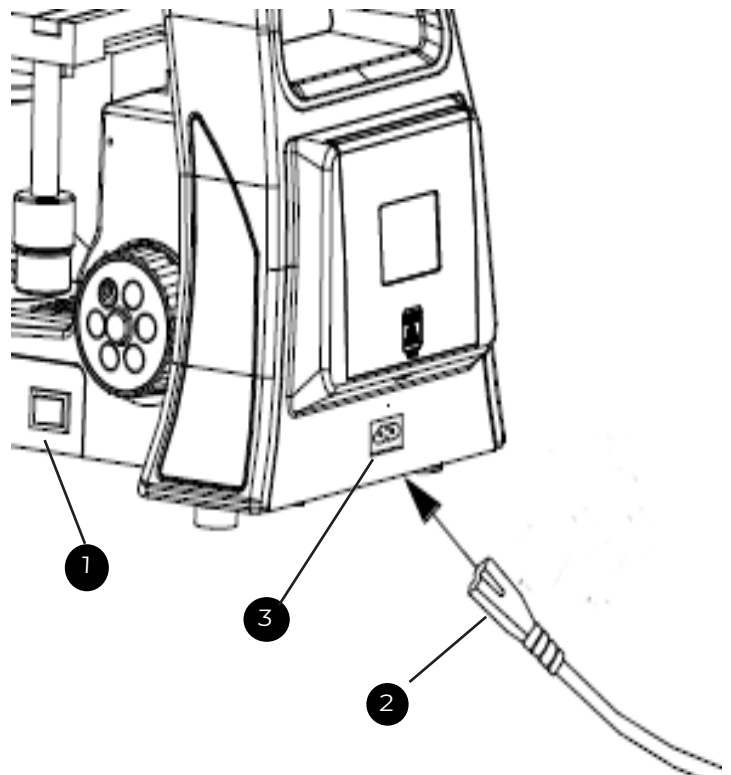

Fig. 4
2. Insert the connector **2** of power cord into the power socket, making certain it's inserted completely (see Fig.4).